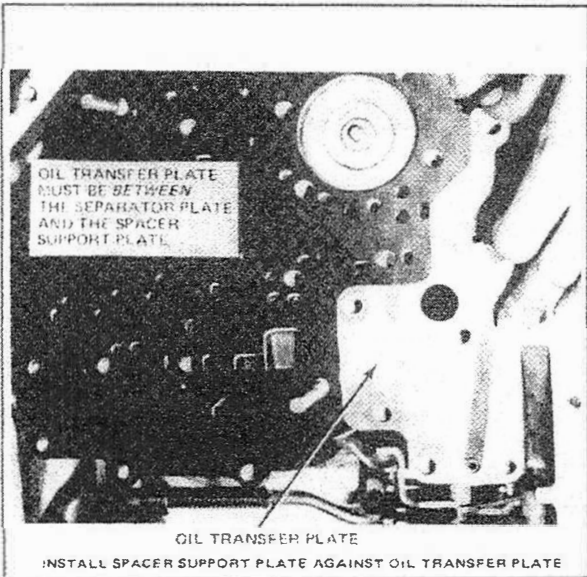

Fig. 5
13. Install the special oil transfer plate against the separator plate ( see Fig. 5). **Install the spacer support plate against the oil transfer plate.** Install the seven (7) spacer support bolts finger tight. Remove the pan bolt holding up the separator plate. Place the valve body to separator plate gasket (smaller gasket) against the separator plate using vaseline to hold it in place.